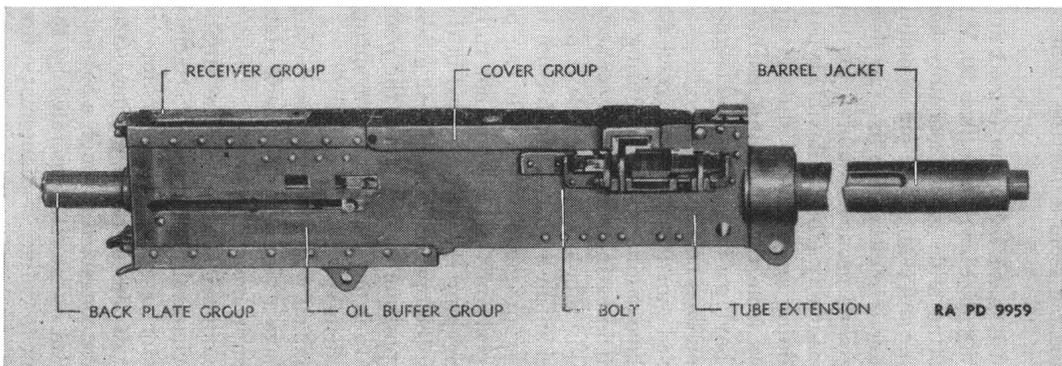

FIGURE 1.—Browning machine gun, caliber .50, M2, aircraft, basic—location of major subassemblies.
*a. Basic gun.*—This gun is now furnished as a basic gun (figs. 1 and 2) which may be described as a Browning machine gun, caliber .50, M2, aircraft, fixed, from which the operating slide group assembly has been removed and to which a trigger bar and trigger bar pin assembly have been added. This gun can be made into either the fixed or flexible type by addition of an operating slide group assembly (for the fixed type) or a retracting slide group assembly (for the flexible type). The fixed type of gun obtained by adding an operating slide group assembly to a basic type of gun differs from the Browning machine gun, caliber .50, M2, aircraft, fixed, by having a trigger bar and trigger bar pin assembly, whereas the latter gun does not.